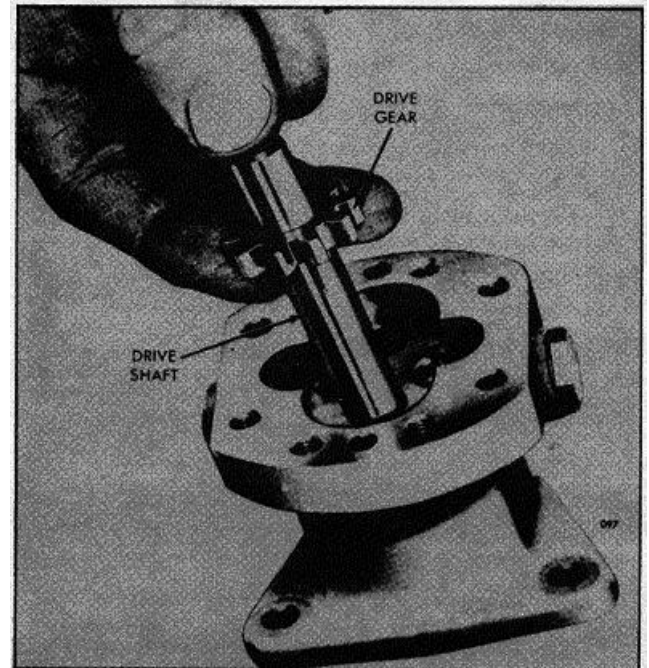

Fig. 8. Inserting Fuel Pump Drive Shaft and Gear Assembly through Oil Seals
4. Lubricate the pump shaft and insert the square end of the shaft into the opening at the gear side of the pump body and through the oil seals as shown in Fig. 8.